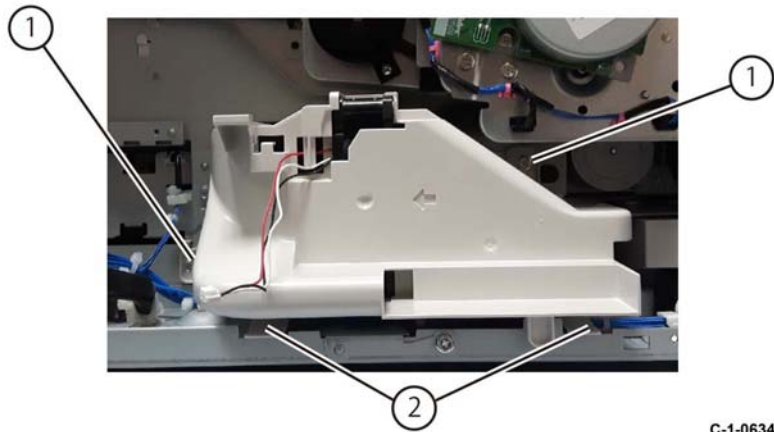

Figure 4 Rear duct marking removal
12. Remove the rear duct marking, Figure 4.
- a. Remove two screws (1).
- b. Disengage the right and left hooks (2), then remove the rear duct marking.